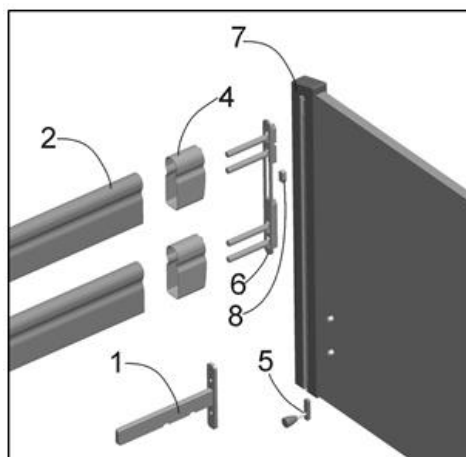

Figure 3: Assembly of the wooden surround
Insert the sliding blocks (6) into the lath holes at the head end as illustrated, then slide them into the slide bar at the headboard incl. the distance piece (8) and secure with the knurled screw and the clamp (5). (c.f. Figure 3)